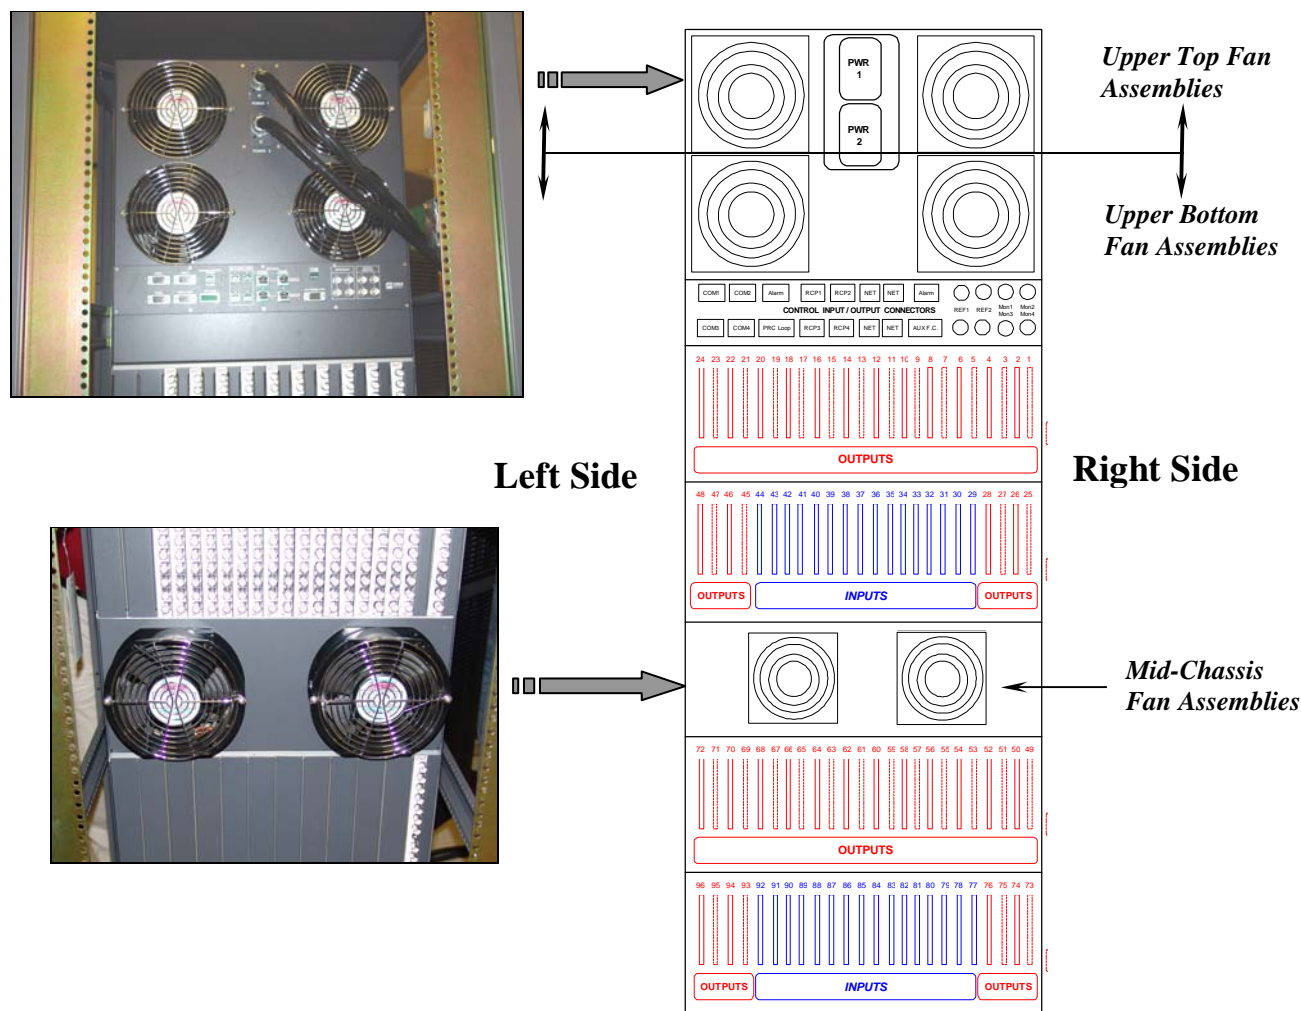

FIGURE 94: Cheetah 512 And 1024 Series Earlier Version Fan Placements (rear view)
Earlier versions of the Cheetah 512 and 1024 Series switchers (see Figure 94) are equipped with flush-mounted, upper fan assemblies (4) that are replaceable from the front interior only. All power connections to either the upper fan assemblies and the lower, surface mounted mid-chassis fan assemblies (2) are to power connectors affixed to the chassis backplane and are also accessed from the front interior only.
1. Remove the filter/breaker panel assembly to access the upper top fan power connections (see Figure 94).